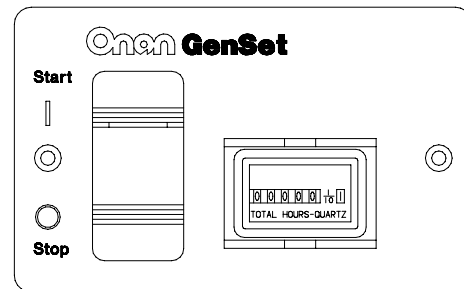

FIGURE 13. REMOTE SWITCH / HOUR METER
- Remote switch / status lamp and hour meter (Figure 13).